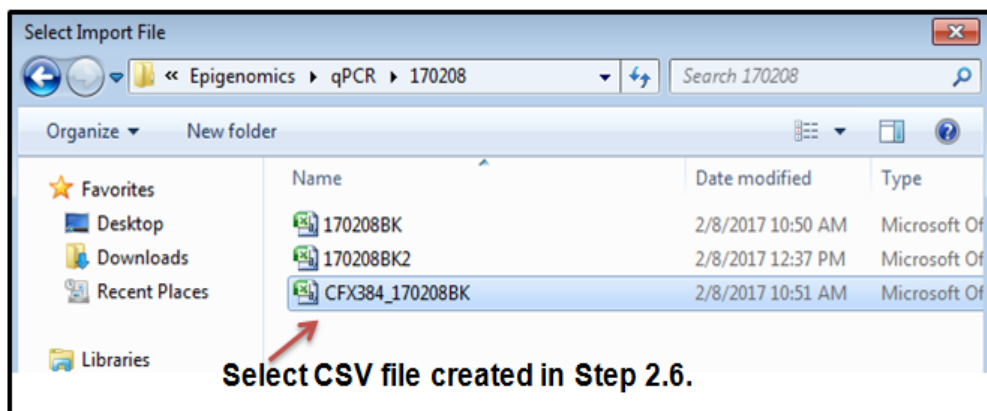

Figure 28: Selecting and importing the spreadsheet
5.7. Import the CSV file that was created in Step 2.6 as illustrated in Figure 28. Select the file and click OPEN at the bottom of the window.